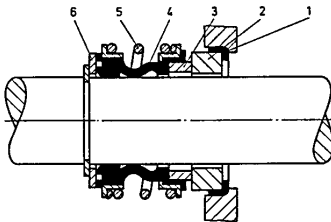

Fig. 6.2.3.3a
1. Stressed mechanical seal independent of direction of rotation with elastomer bellows (fig. 6.2.3.3a)